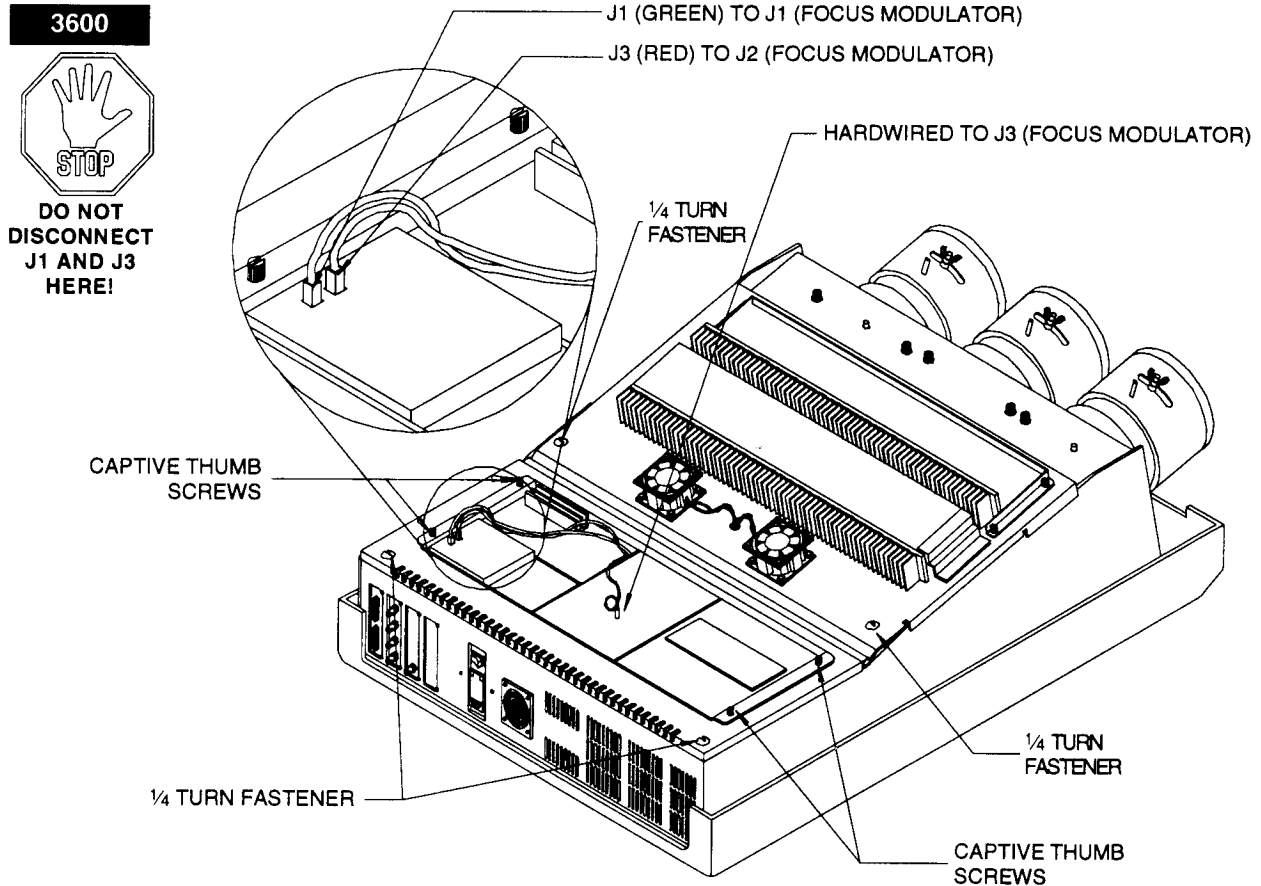
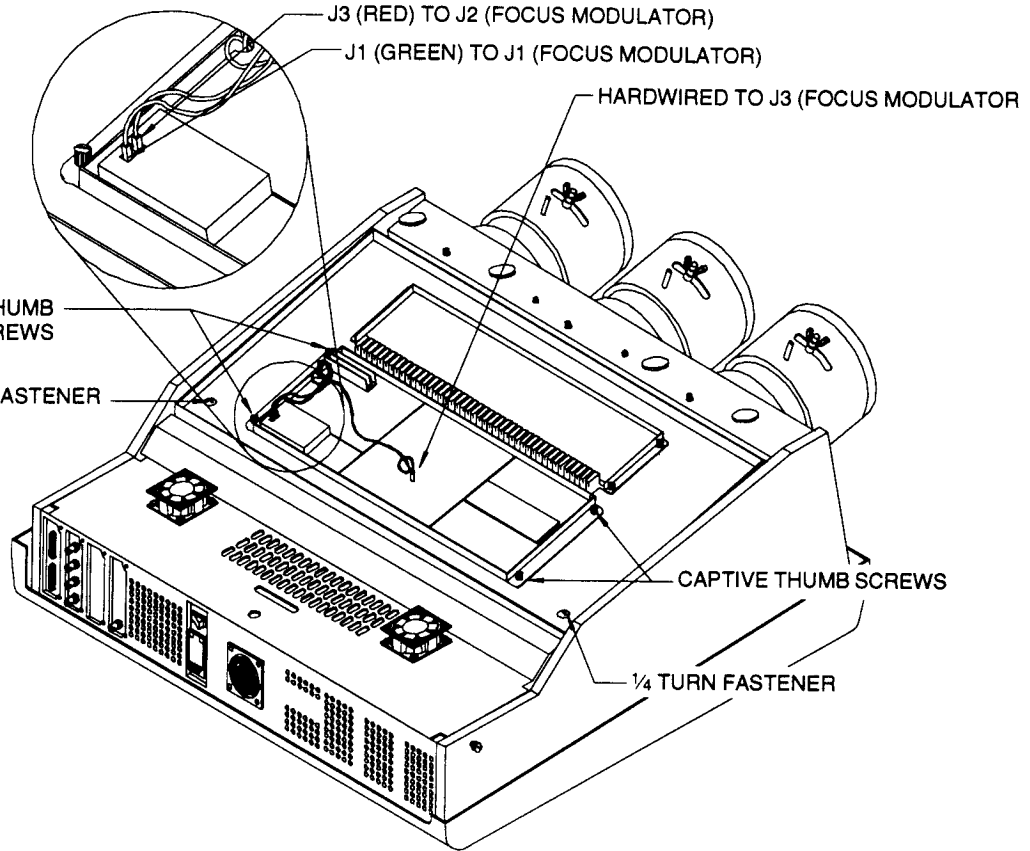

FIGURE 9-17A. Registration replacement-3600.
FIGURE 9-17B. Registration replacement-4600.
- STEP 2. Unlock and tilt-up the Registration Tray assembly; The Registration tray assembly is secured by two ¼ turn fasteners located at the rear of this assembly. See Figure 9-17A and 9-17B.
- STEP 4. 3600: Loosen the two ¼ turn fasteners located at the rear of the Main Tray assembly and tilt-up. See Figure 9-17A. 4600: Loosen the two ¼ at the rear of Tray assembly 1, see Figure 9-17B.
- STEP 6. Lower the tray assemblies, loosen the four captive thumb screws located on both sides of the Registration assembly (Figure 9-17A-3600 and Figure 9-17B-4600), and lift the assembly out